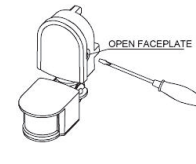

Figure 1
- Unload the front cover directly by screw-driver. (figure 1). Find the wire hole with gasket in the bottom and pass the power wire through hole.